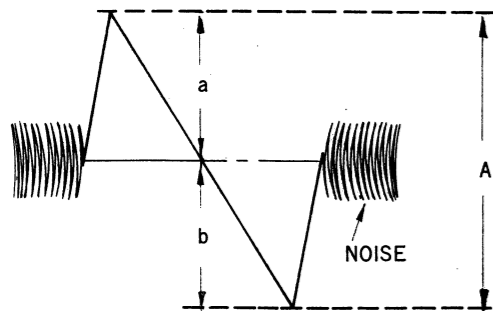

Fig. 3-6 "S" Curve Response
- Turn the top core of T201 with the hexagonal-head alignment tool to obtain an "S" curve response as shown in Fig. 3-6.
- Turn the top core of T201 to equalize negative and positive peakes as shown in Fig. 3-6.